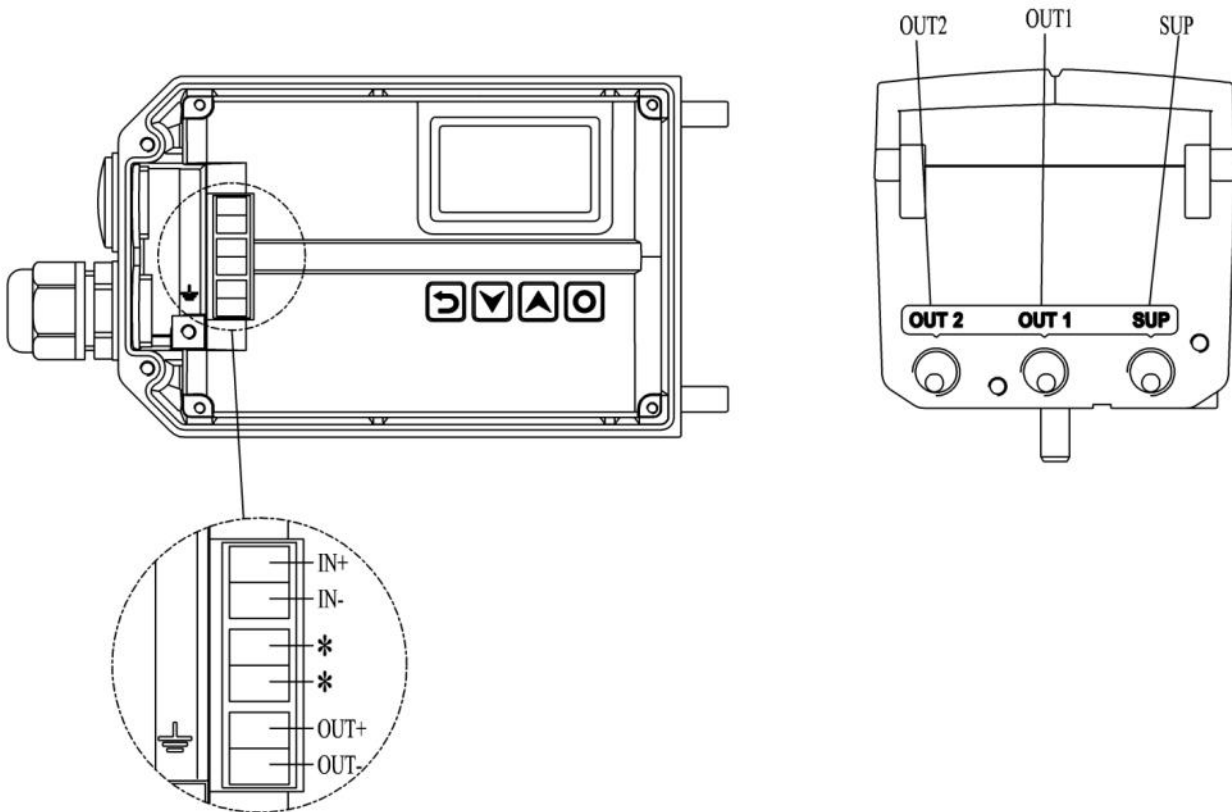

Figure 1. Connection description
- **If the input signal has attenuation and the user does not require HART communication function, try to set to low impedance mode. Connect the two undefined electrical interfaces marked with * in Figure 1 to each other through one wire to make the positioner in low impedance mode.**